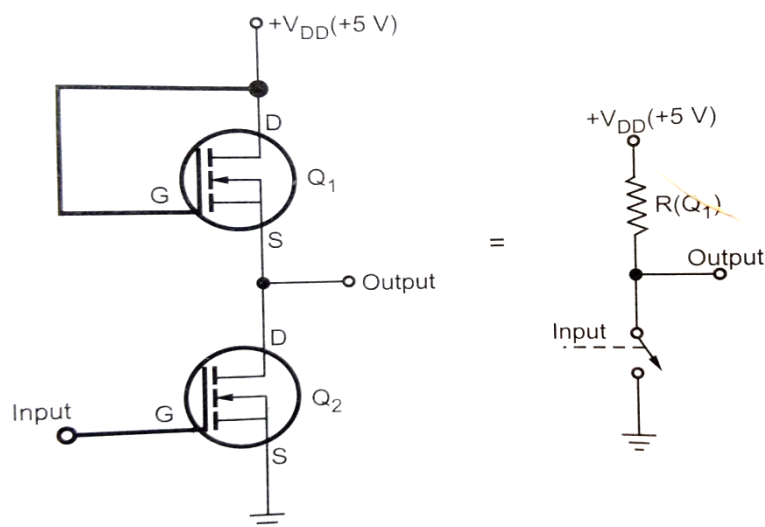

Figure 1.22: NMOS inverter circuit and its equivalent circuit
- Figure 1.22 shows the basic NMOS inverter circuit. It consists two N-channel MOSFETs. Q2 is a switching MOSFET and Q1 is a load MOSFET.